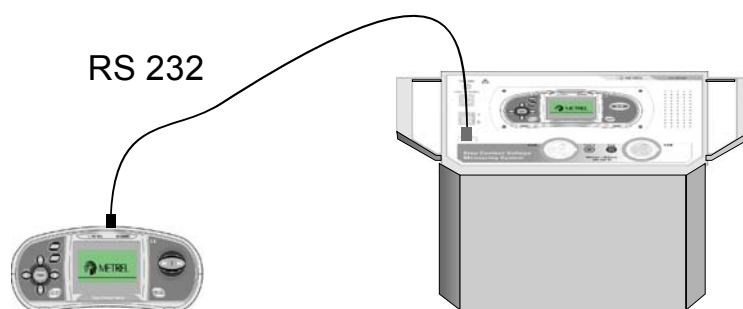

Figure 7.8: Connection of the instruments during synchronization
For connection of the instruments see *Figure 7.8*.
- ❑ To view stored earth resistance or specific earth resistance results on PC they must be downloaded to the Meter first. To download the results select Earth results in Synchronize menu. After the results are downloaded the stored data in the Station will be automatically deleted. For connection of the instruments see *Figure 7.8*.
- To view stored earth resistance or specific earth resistance results on PC they must be downloaded to the Meter first. To download the results select Earth results in Synchronize menu. After the results are downloaded the stored data in the Station will be automatically deleted. For connection of the instruments see *Figure 7.8*.